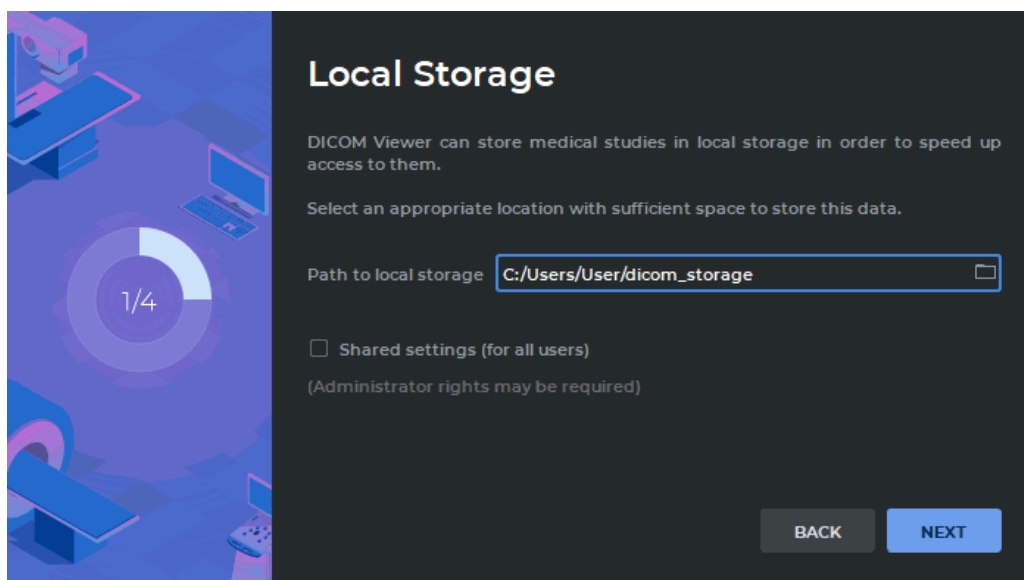

Figure 17: Path to the Local Storage
1. On the page **Local Storage** (Fig. 17) change the path to the Local Storage DICOM data. We recommend leaving the default value.